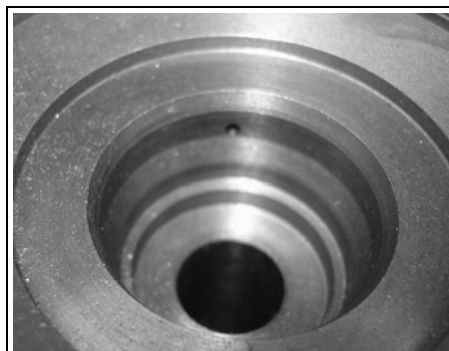

Figure 16B. Plunger Body Hole.
25. Lubricate new o-rings with hydraulic oil and carefully install. Place plunger housing face up on firm table. Generously lubricate valve bore and set valve squarely into opening. Rotate valve until one hole in valve body (Figure 16A) is aligned with hole in plunger body (Figure 16B) and press valve into plunger housing.